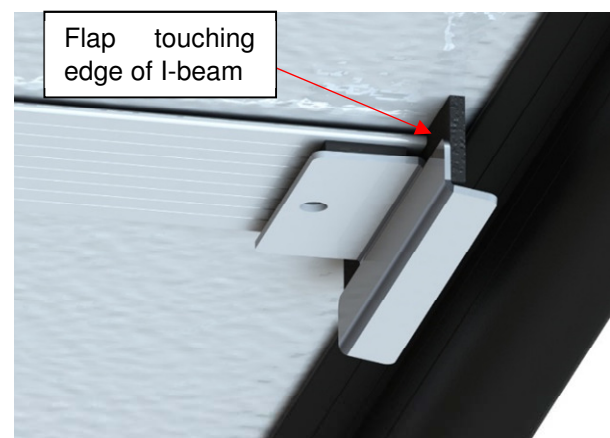

Figure 103
- 3) Apply the provided masking tape around the hot tub where the seal will be installed. The masking tape will ensure the seal is straight when pulled from one corner to another. The ideal location for the seal is closer to the spa's interior edge (Figure 103). The minimum turn radius is 4 in. (10 cm)
- 4) Apply the provided seal clips parallel on the masking tape around the hot tub and be sure to put more in the corners and on any tight turns, filters, etc., keeping in mind that a limited number of clips are provided. (Figure 103)